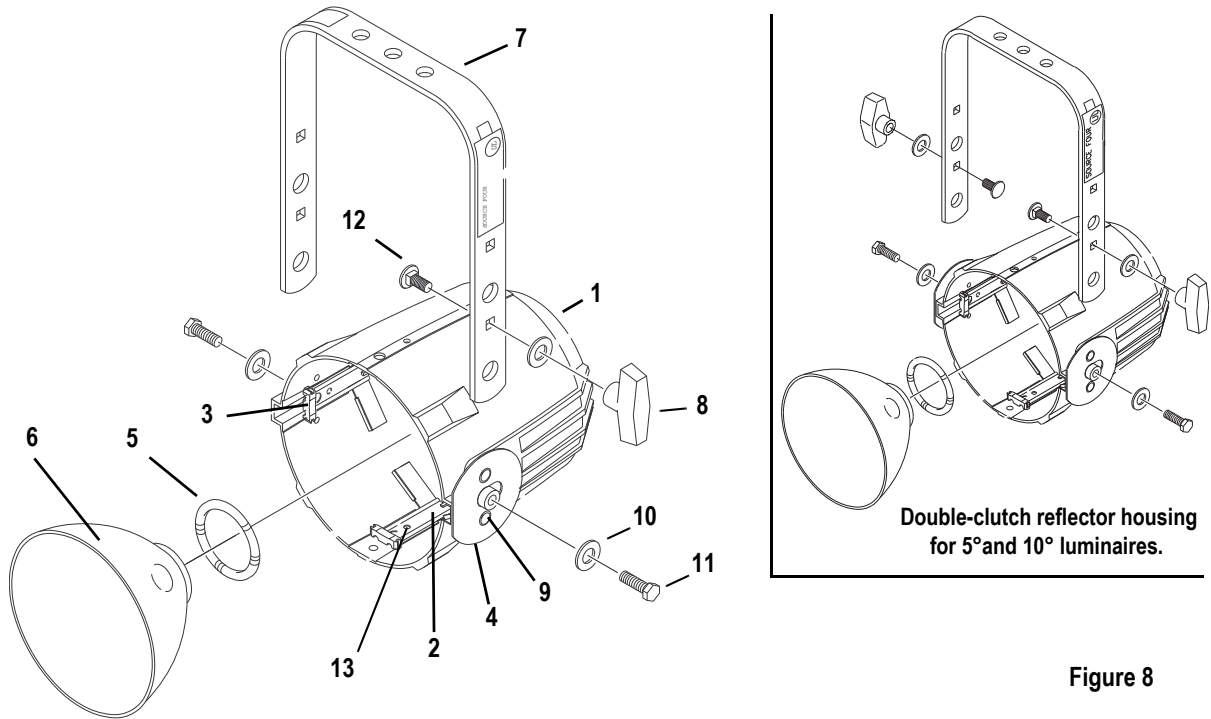

Figure 8
Note: *The following assumes all four reflector retainer clips (2) have already been riveted to the reflector housing casting (1) and the gate bushings (3) installed on the retainer clips. See Figure 8.*
- Step 1: Place the reflector housing casting (1) on a flat work surface with the large opening facing up.
- Step 2: Install the reflector support spring (5) in the circular opening at the base of the casting.
- Step 3: Insert the reflector (6) at an angle, under any three adjacent legs of the reflector's clips.